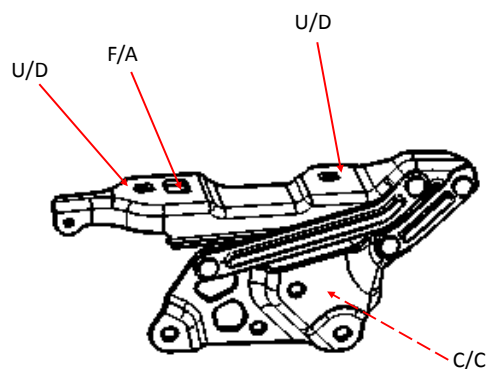

Figure 2: Hinge to Vehicle/Hinge Fixture
4.3.1.2.1 Primary: Cross/Car (C/C). Hinge located to hinge pillar (see Figure 2).
4.3.1.2.2 Secondary: Up/Down (U/D). Hinge located to hinge fixture (see Figure 2).
4.3.1.2.3 Tertiary: Fore/Aft (F/A). Hinge located to hinge fixture (see Figure 2).